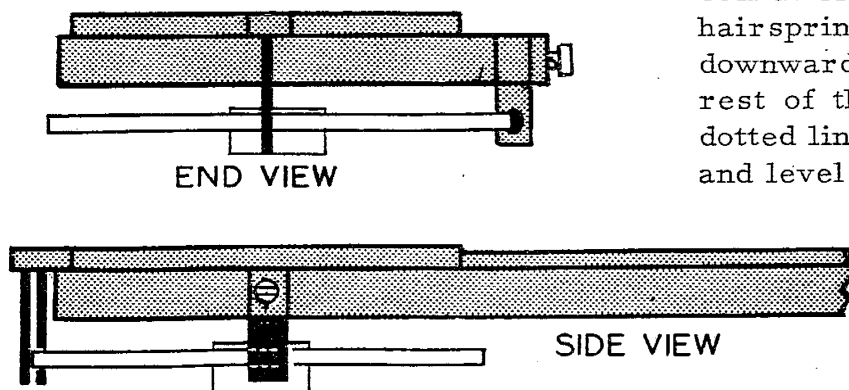

Fig. 20-18
3. Level the hairspring to the bridge, figure 20-18. Raise the assembly to eye level so you can see it from the side. If you have to do any bending to level the hairspring, do it as close as you can to the stud.
7. When you have finished centering and circling, check again for level, figure 20-18.